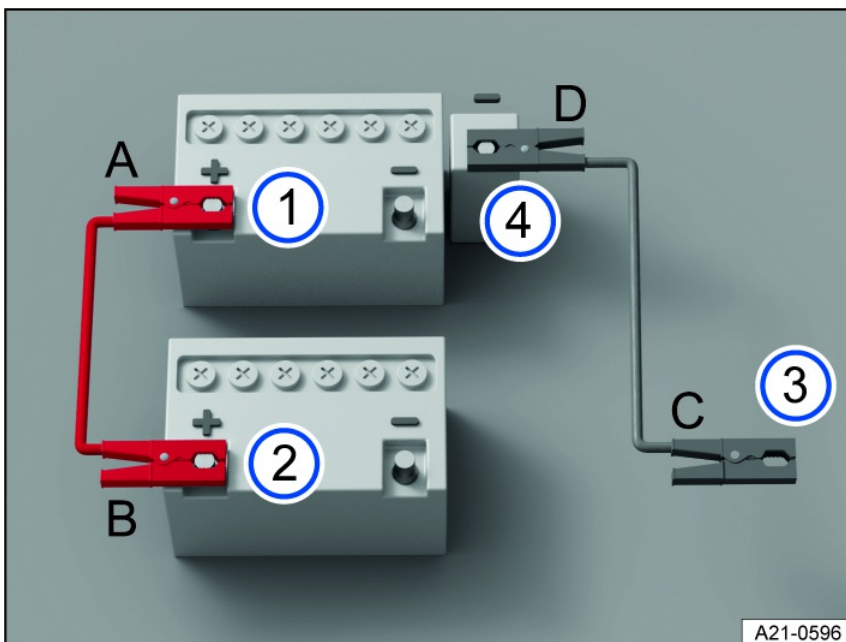

Fig. 194 Diagram for connecting the jumper cables.
Only connect the jumper cables in the sequence A – B – C – D *fig. 194*.
3. Connect one end of the red jumper cable to the positive battery terminal (+) of the 12 V vehicle battery with the discharged 12 V vehicle battery *fig. 194* ① = .
4. Connect the other end of the red jumper cable to the positive battery terminal (+) on the vehicle providing current *fig. 194* ②.
5. Connect one end of the black jumper cable preferably to the negative terminal (–) jump-start point on the vehicle with the 12 V vehicle battery providing current *fig. 194* ③.
Or: If there is no negative terminal (–) jump-start point, connect the end of the black jumper cable to a large metal part that is bolted securely to the engine block, or the engine block itself, on the vehicle with the 12 V vehicle battery providing current *fig. 194* ③.
6. Connect the other end of the black jumper cable to the negative terminal (–) jump-start point on the vehicle with the discharged 12 V vehicle battery *fig. 194* ⇒ .
3. Once the vehicle has been jump-started, always disconnect the jumper cables in the order D – C – B – A *fig. 194*.